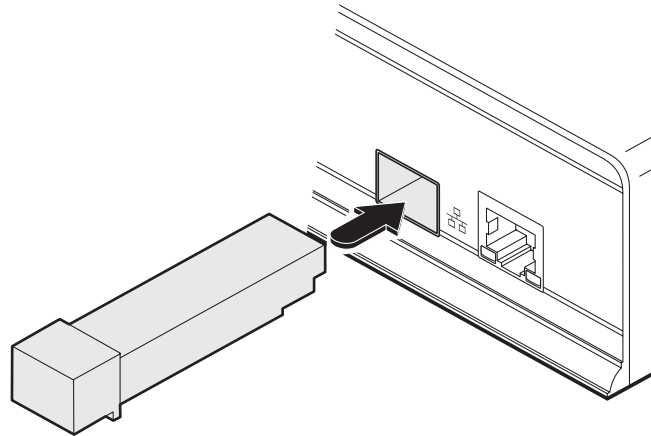

Figure 3-9. Insert an appropriate single mode or multi mode fiber module.
- 1 Insert the appropriate optional SFP module into the aperture on the ServSwitch Agility Dual/Dual-Head front panel. See Figure 3-9.